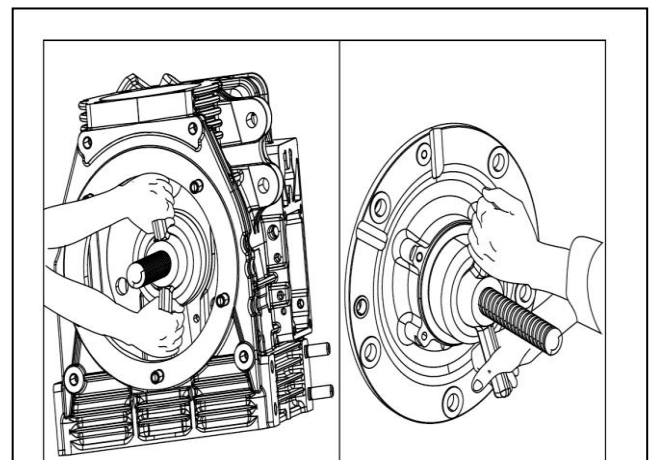

Fig. 6.4
21. Using puller T-09-00-0118 remove crankcase main bush from crankcase and F.W.E. bush from crankshaft support (Fig. 6.4)